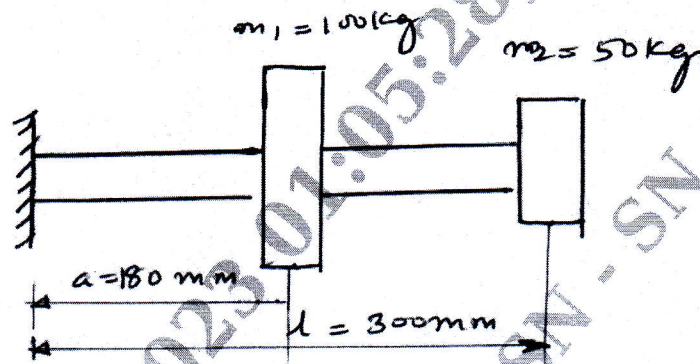

Fig. Q8 (b)
- b. Find the lowest natural frequency of vibration for the system in Fig. Q8 (b) by Rayleigh's method. $E = 1.96 \times 10^{11} \text{ N/m}^2$, $I = 4 \times 10^{-7} \text{ m}^4$.